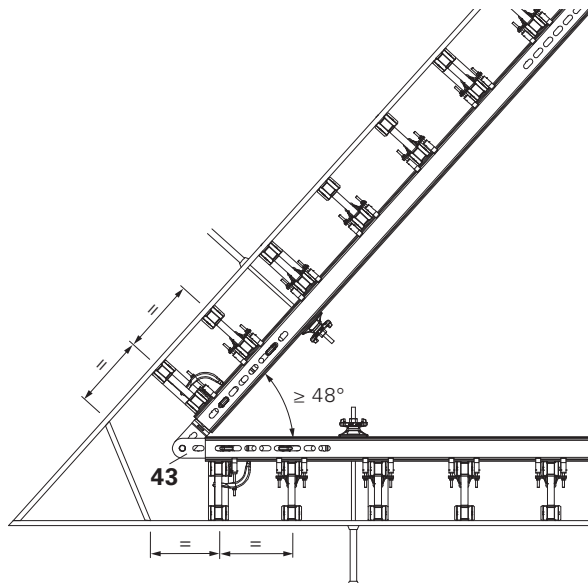

Fig. C2.01
With the Articulated Coupling GKZ (43), angles larger than 48° can be continuously formed. (Fig. C2.01)